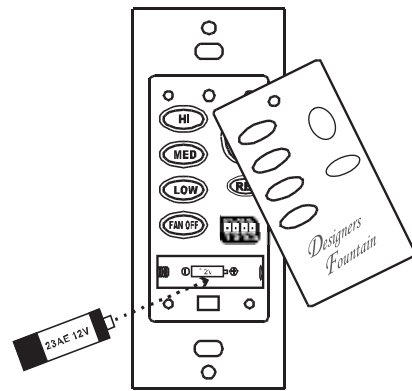

Figure 12
**NOTE:** Remove cover by snapping off from top or bottom. Install 12V battery into wall remote. Duracell MN21/Eveready A23/GP 23A all 12V. (Fig. 12)